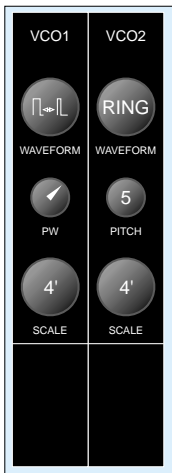

Figure 7: The MS20 oscillators producing an enharmonic timbre.
► to VCO2 (see Figure 7, above). But there's a problem here... the tuning of VCO1 affects the timbre produced by VCO2's ring modulator, so I shall have to find settings that satisfy both requirements. The truth is, I'm going to fail to create anything as good as the TR808, but we'll press on, and see if we can use the rest of the MS20 to improve matters.